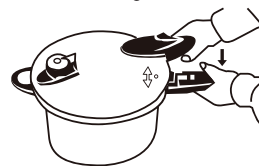

Fig. 5
2. Press lightly on the lid and turn it clockwise until the two handles are level with each other (Fig. 5).